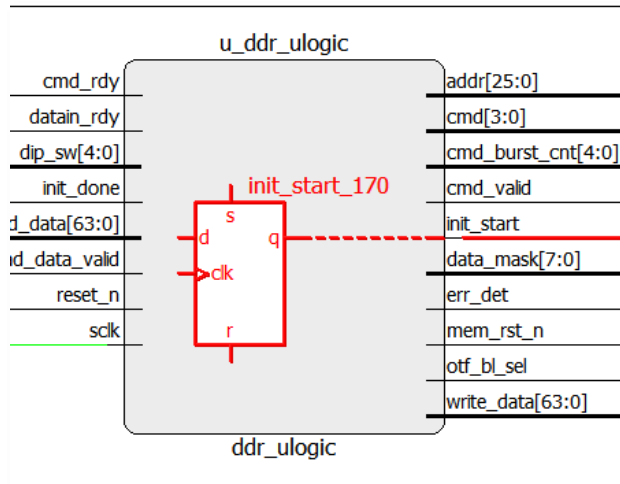

Figure 3.13. Logic Connected to the Selected Pin
3. Double click on the pin and the logic connected to that pin (the register connected) will be highlighted as shown in Figure 3.13.